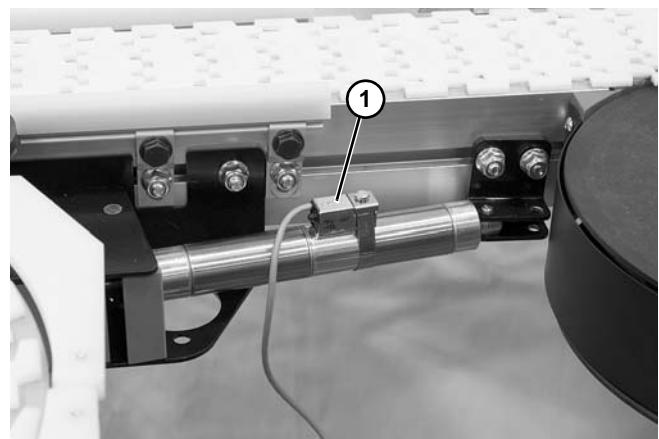

Figure 43
Reed sensors (**Figure 43**, item 1) can be mounted on the cylinder. A divert module with magnet installed must be requested.